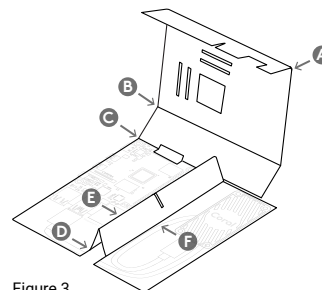

Figure 3
- 13 Fold each dashed line so the paper turns up, except for line E, which folds down to form a vertical divider, as shown in figure 3.